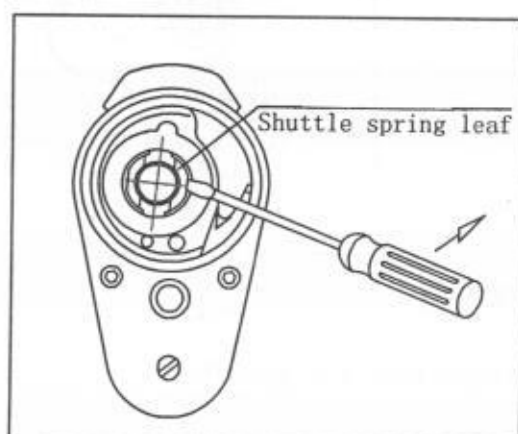

Fig. 7
(B) The lower thread is adjusted through the inner shuttle spring leaf. Prize up the spring leaf with screwdriver (Fig. 7) and the lower thread will be tightened.